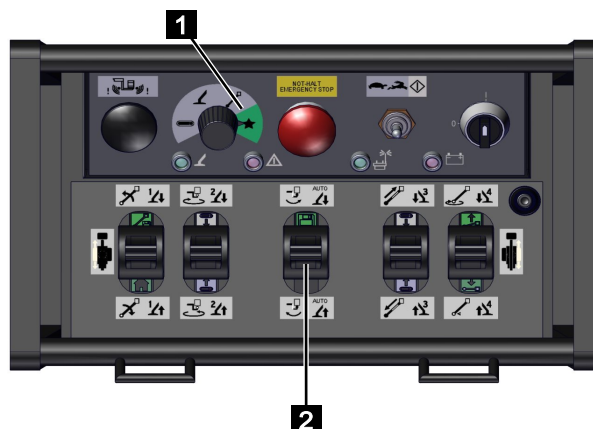

Fig. 140
2. Set the function selector (Fig.140/1) to [special function] (green).
3. Use the control lever (Fig.140/2) as per the following table.